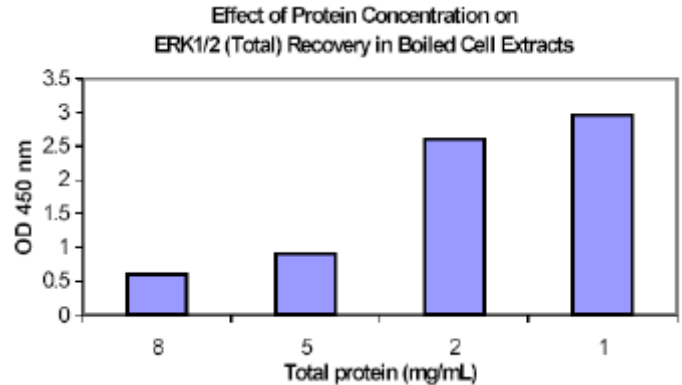

Figure 2
4. The data in Figure 2 show that protein concentrations above 2.5 mg/mL negatively affected the ELISA signal. perhaps due to protein aggregation or precipitation after boiling.